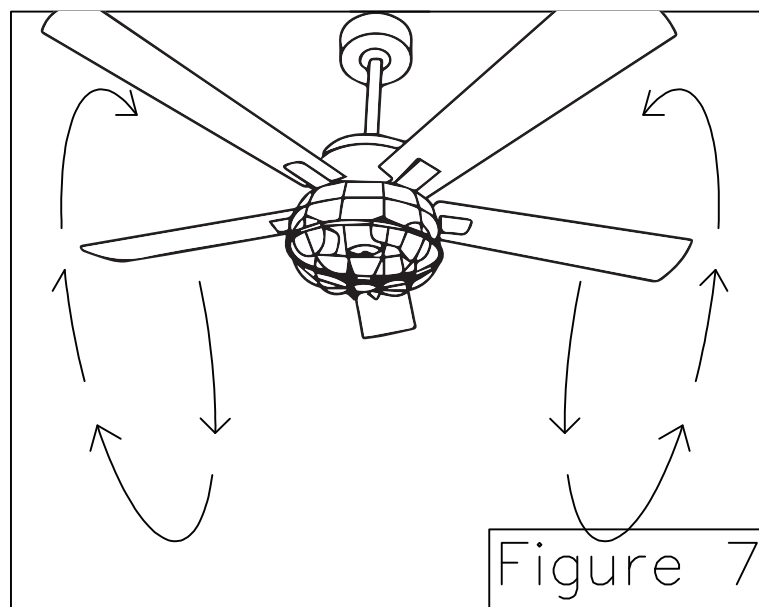

Figure 7
- Warm weather-(Forward) A downward air flow creates a cooling effect as shown in. (Figure 7) This allows you to set your air conditioner on a higher setting without affecting your comfort.